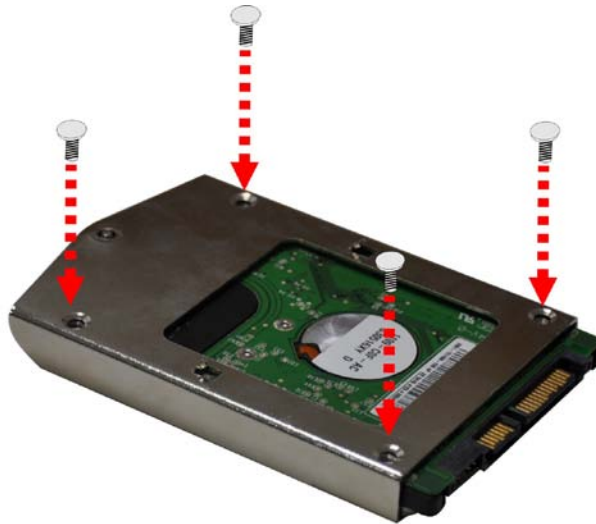

Figure 4-5: Securing the HDD
Step 6: Secure the HDD to the bracket using four (4) retention screws (**Figure 4-5**).